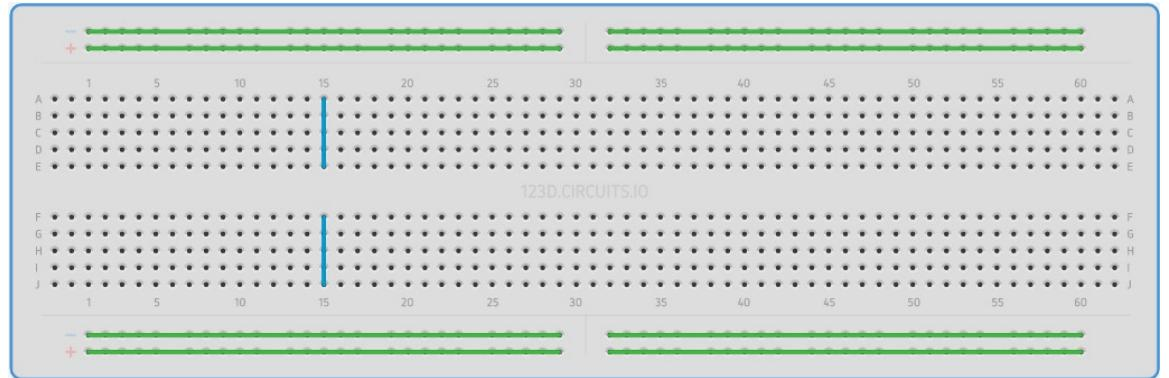

Figure 1.2.1.1: Breadboard
1.2.1. Connect the 5V pin of the Vaman-ESP32 to an extreme pin of the Breadboard shown in Fig. 1.2.1.1. Let this pin be  $V_{cc}$ .